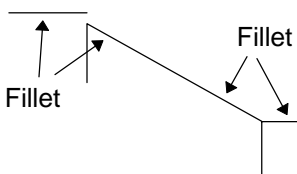

Figure 18
- Take the last line in the sequence and move it up 900 in the Y-direction — your drawing will now look like Figure 18.
- Set the *Fillet* radius to 40 and then fillet the lines indicated in Figure 18.